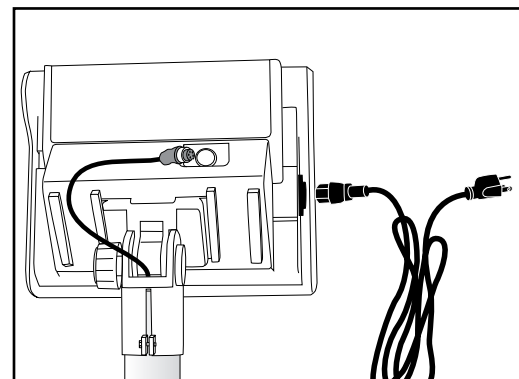

Figure 7
13. Plug the data cable and the Power Cord into the Display Indicator. (See Figure 7)